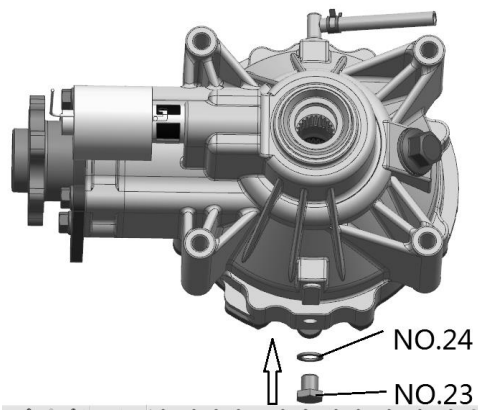

Fig21
12. Mount the oil drain bolt (NO.23) and washer (NO.24). Add $250 \pm 25\text{mL}$ oil(85W/90GL-4). Fig 21